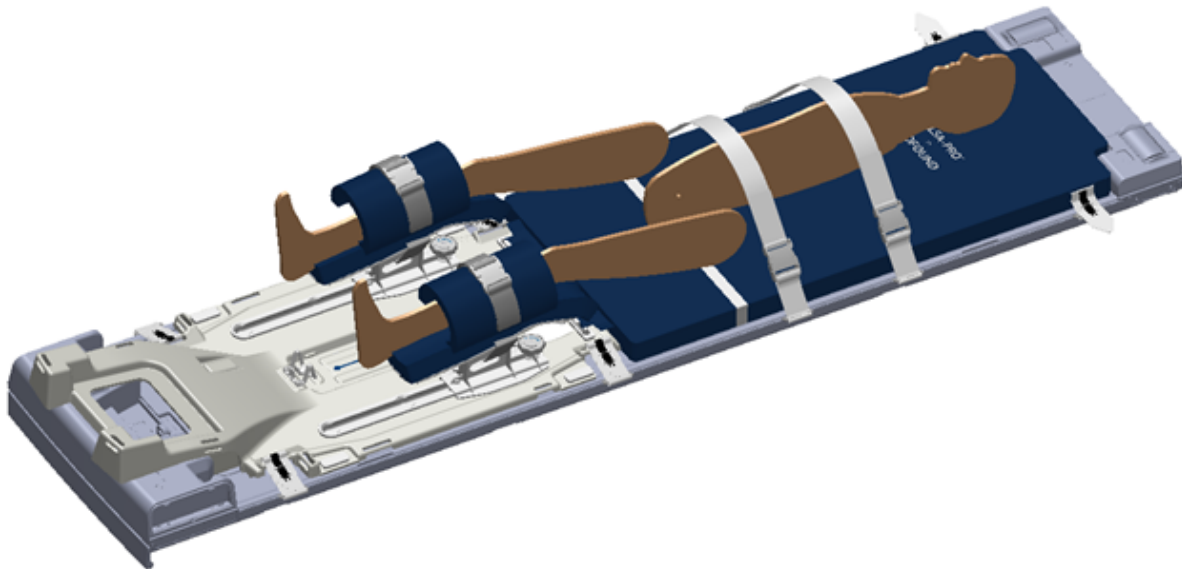

Figure 27: Securing the abdomen and arm straps
1. MRI Technologist: Fasten one abdomen arm-strap tightly over the lower abdomen under the patient's arms to minimize anterior-posterior breathing motion. Wrap the sheet over the abdomen and place the patient's hands on top. Fasten a second abdomen-arm strap over the arms to help fit the patient into the MRI bore (*Figure 27*, your configuration might not match exactly as shown).